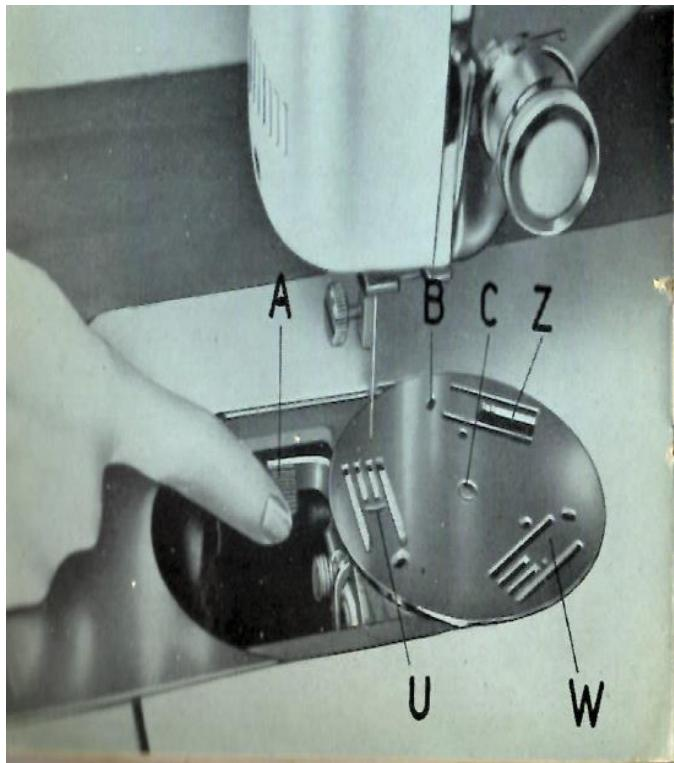

Figure 7
The SUPERNOVA machine is provided with a round needle plate which can be fitted in 3 different positions marked U, W, Z (figure 7)
- b) Press lever A, the needle plate will automatically lift itself and come out from locating pin B (Figure 7)